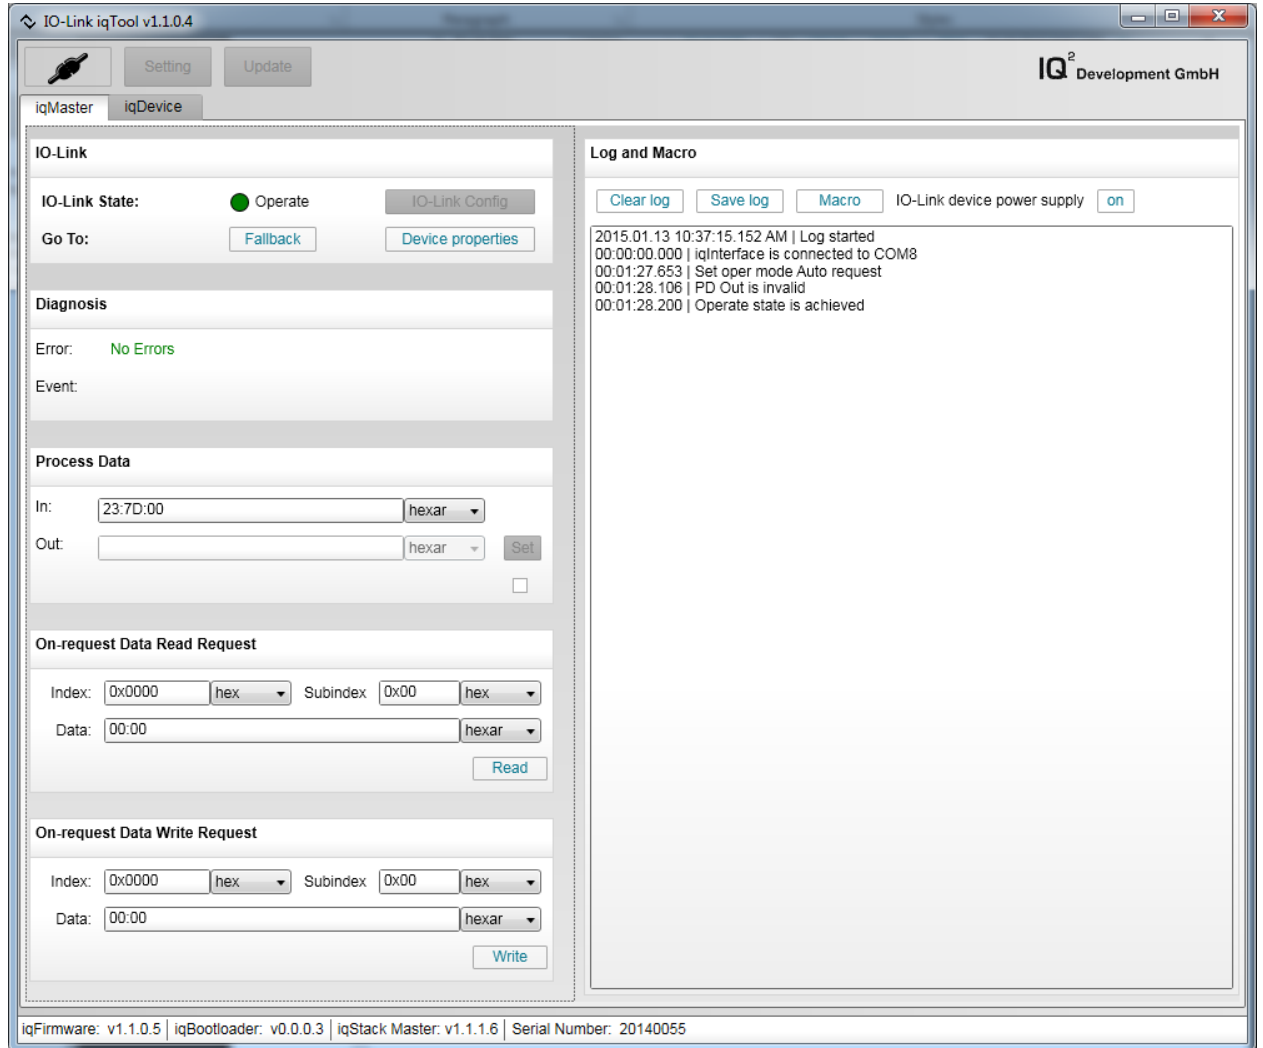

Figure 12. iqTool Operate state.
12. You should now see a flashing green **Operate** circle and the **On-request Data Read Request** group should have become active (ungrayed out) as shown in Figure 12.